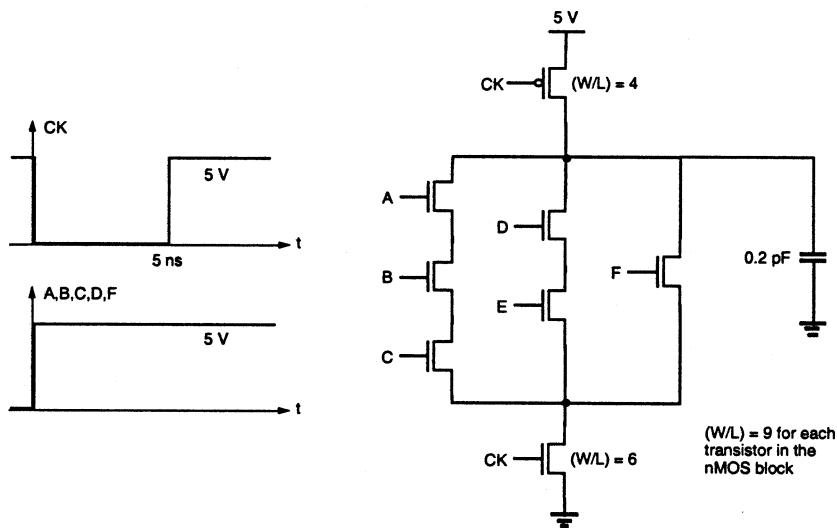

Figure P9.1
- 9.1** Consider the CMOS circuit shown in Fig. P9.1 that was designed to drive a total capacitive load of  $C_L = 0.2 \text{ pF}$ . For the n-channel devices, assume zero bias threshold voltage  $V_{T0} = 1.0 \text{ V}$  and transconductance parameter  $k'_n = 50 \mu\text{A/V}^2$ . For the p-channel devices, assume  $V_{T0} = -1.0 \text{ V}$  and  $k'_p = 25 \mu\text{A/V}^2$ . For all the devices, assume the  $W/L$  ratios for each device is shown in the figure. The initial voltage across the load capacitor  $C_L$  is 0 V. The waveform at input  $E$  is identically 0V for all time. For the clock  $CK$  and the rest of the inputs, the waveforms are also shown in the figure. Sketch the voltage waveform across the load capacitor  $C_L$  and provide clear marking of the 50% crossings along the time axis in nanoseconds for both rise and fall transitions. [Hint: The n-channel transistor group can be approximated by a single equivalent n-channel transistor and either an average current method or a state equation method may be used to compute the required delay times.